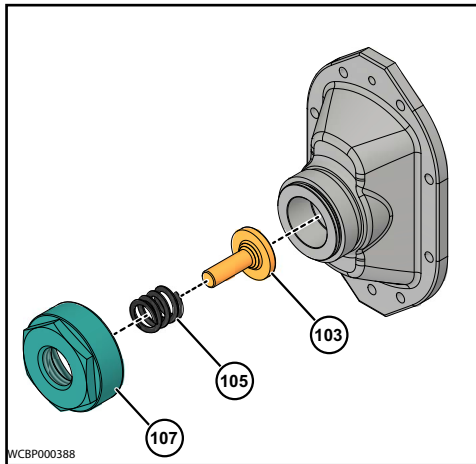

Figure 91 - Install the Spring Plunger
4. Insert the Spring Plunger (103) into the Diaphragm Bushing along with Spring (105). Then apply the anti-seize on the cover port threads and tighten the Cover Nut (107) onto the Cover port, as shown in Figure 91.